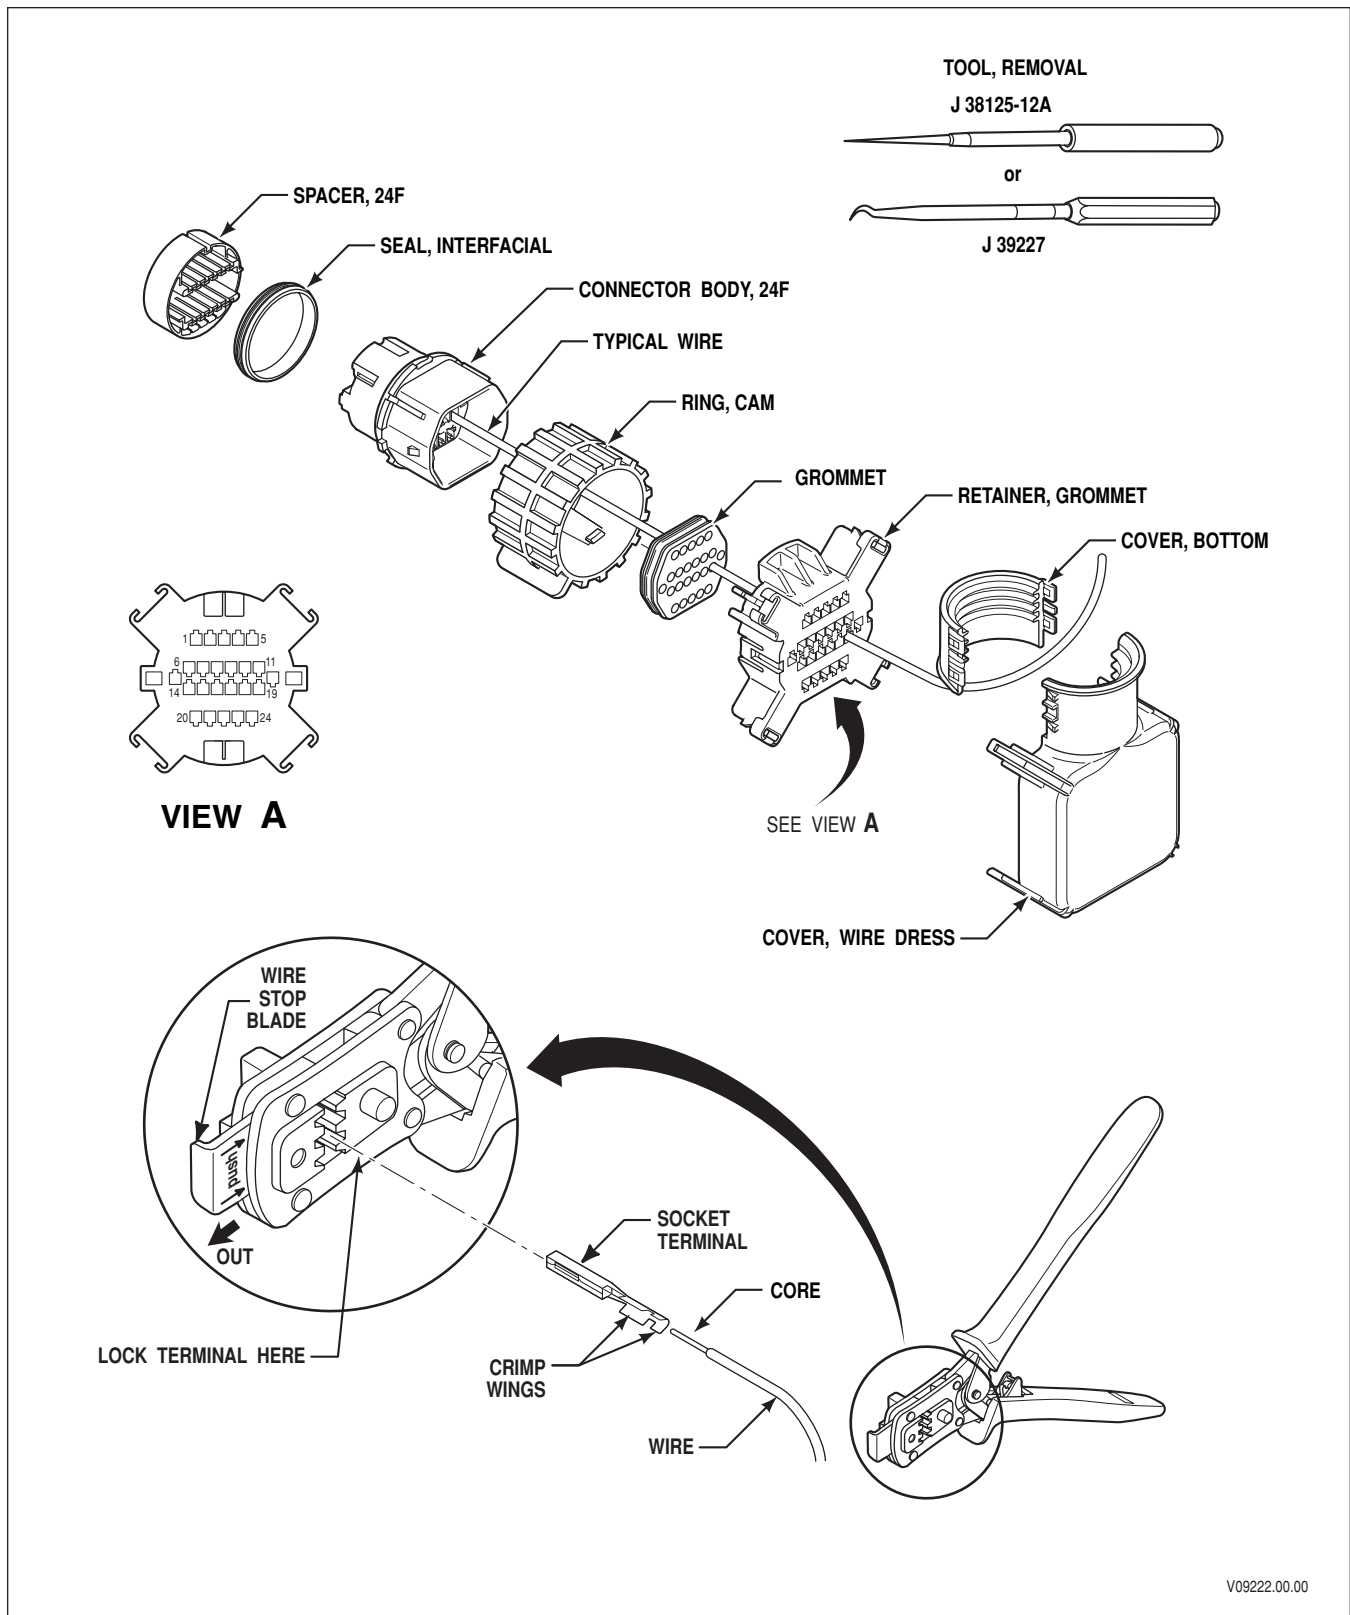

Figure E-3. AFL 24F Transmission Connector
APPENDIX E—CONNECTOR REPAIR INFORMATION**E-3. AFL AUTOMOTIVE 24F TRANSMISSION CONNECTOR****A. Connector/Terminal Repair (refer to Figure E-3)****Required Tools**
6. Insert metal blade of J 38125-12A or J 39227 removal tool into front of connector body at desired terminal/wire lead cavity location (refer to Figure E-3).